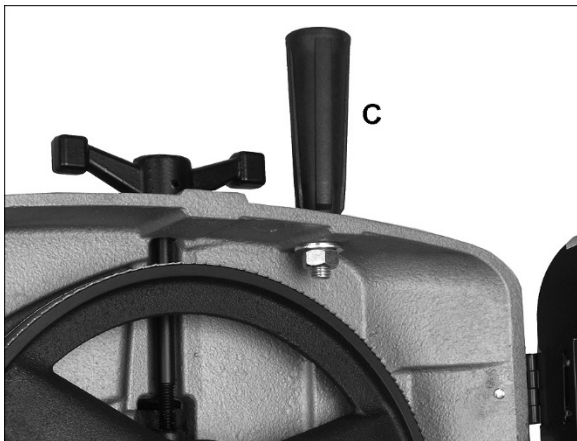
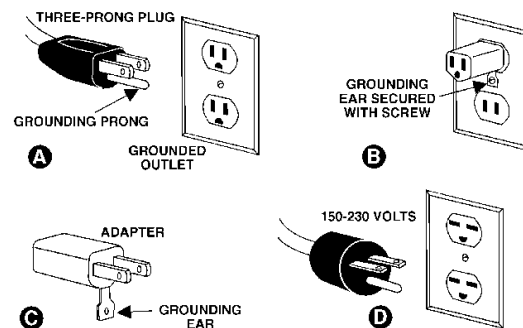

Figure 6-5: installing handle
Figure 7-1: grounding
4. Install handle with flat washers and nut (C, Figure 6-5), using 19mm wrench. To install, raise bow to vertical position and open guard. **CAUTION:** Spring-tensioned stop bracket (see Figure 7-1) must be rotated out of the way before raising bow.
The HVBS-712 and HVBS-712D Band Saw is rated at 115/230V power, and is pre-wired for 115 volt. The band saw comes with a plug designed for use on a circuit with a *grounded outlet* that looks like the one pictured in **A**, Figure 7-1.
When operated at **115-volt**, this tool is intended for use on a circuit that has an outlet that looks like the one illustrated in **A**, Figure 7-1. An adapter, shown in **B** and **C**, may be used to connect this plug to a 2-pole receptacle as shown in **B** if a properly grounded outlet is not available. The temporary adapter should be used only until a properly grounded outlet can be installed by a qualified electrician. The green-colored rigid ear, lug, and the like, extending from the adapter must be connected to a permanent ground such as a properly grounded outlet box. **Note:** *In Canada, the use of a temporary adaptor is not permitted by the Canadian Electrical Code, C22.1.*
When operated at **230-volt**, this tool is intended for use on a circuit that has an outlet that looks like the one illustrated in **D**, Figure 7-1. The tool has a grounding plug that looks like the plug illustrated in **D**. Make sure the tool is connected to an outlet having the same configuration as the plug. No adapter is available or should be used with this tool.